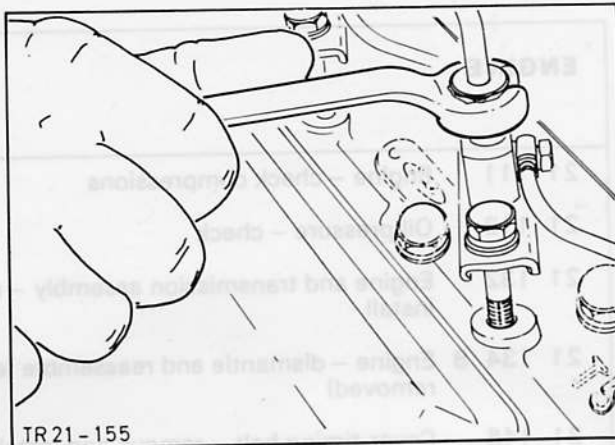

Fig. 7. Remove injector pipes using Special Tool 21-041
3. Unscrew fuel injector pipes using Special Tool 21-041, Fig. 7 and disconnect overflow pipe from nozzle brackets.